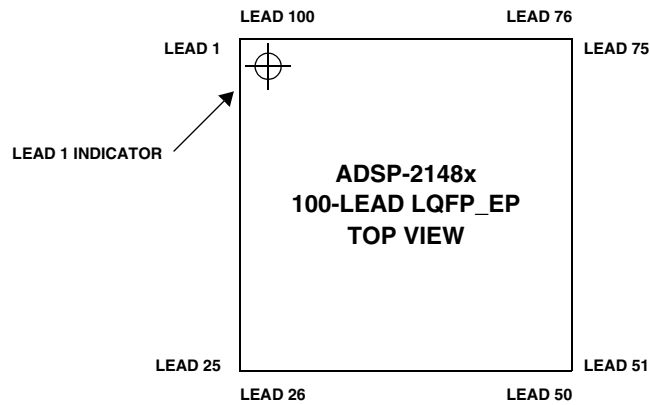
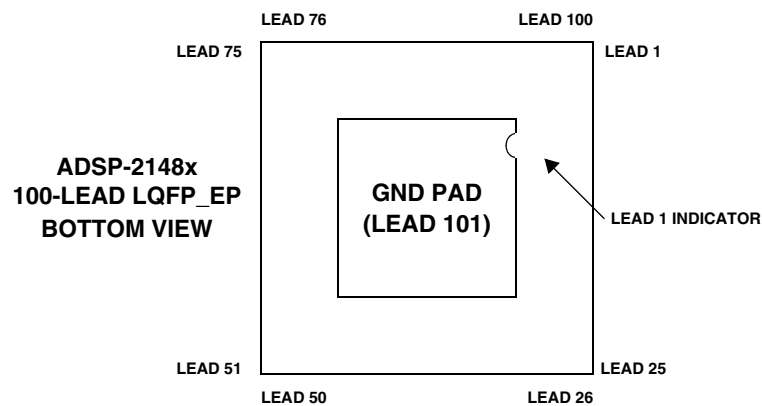

Figure 49. 100-Lead LQFP_EP Lead Configuration (Top View)
Figure 50. 100-Lead LQFP_EP Lead Configuration (Bottom View)
* Pin no. 101 (exposed pad) is the GND supply (see Figure 49 and Figure 50) for the processor; this pad must be **robustly** connected to GND.
Figure 49 shows the top view of the 100-lead LQFP_EP lead configuration. Figure 50 shows the bottom view of the 100-lead LQFP_EP lead configuration.